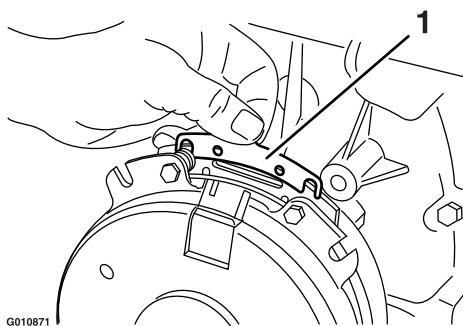

Figure 69
- B. Using needle-nose pliers, or by hand, hold the tab and remove the shim (Figure 69).